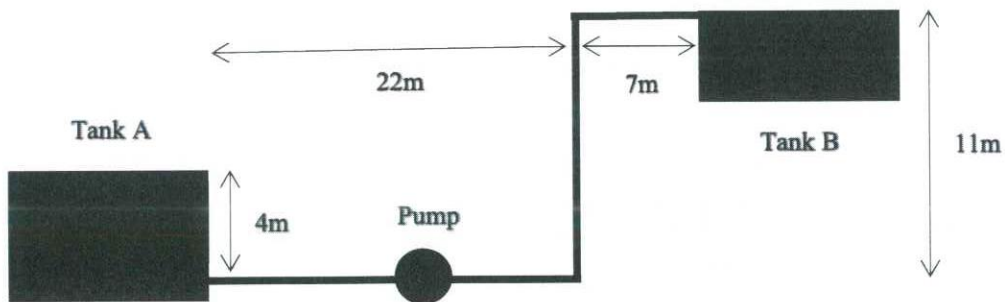

Figure Q3(e)
- e) Eq Q3.e.1 and Q3.e.2 represent characteristics of the pump installed in the pipeline shown in Figure Q3(e). Neglecting any losses, determine the flow rate and efficiency at the operating point by considering the co-efficient of friction and diameter of pipeline as 0.00375 and 15cm respectively. Take the dynamic viscosity of water as 0.001kg/ms. Water is pumped from tank A to tank B.